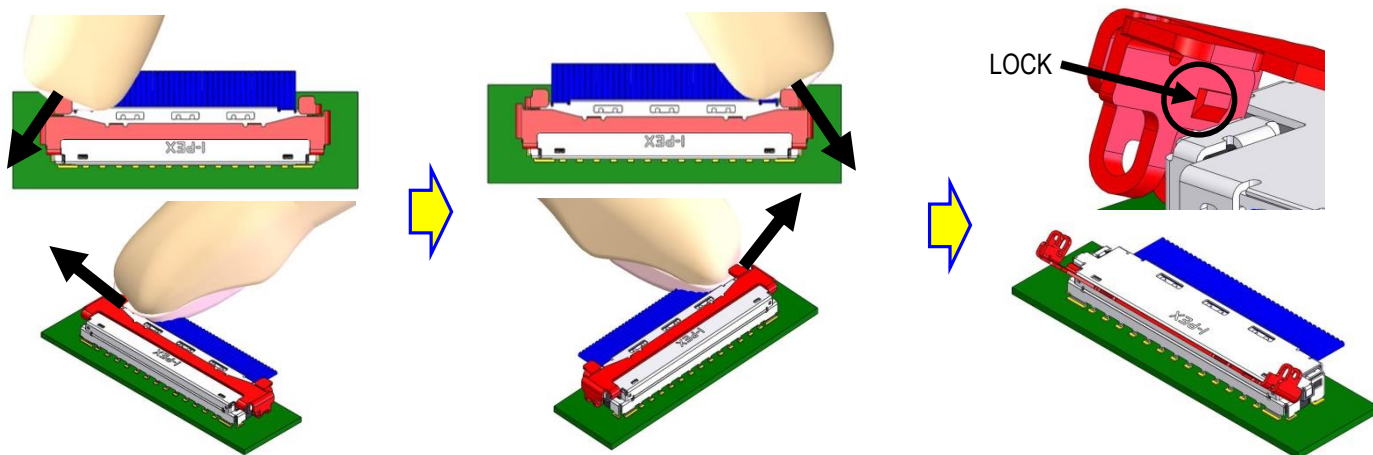

Fig.11
- ① Lift a lock cover finger hook outward on one end and repeat it again on opposite side to release lock cover. Make sure that the inner lock part is completely released. (see Fig.11)